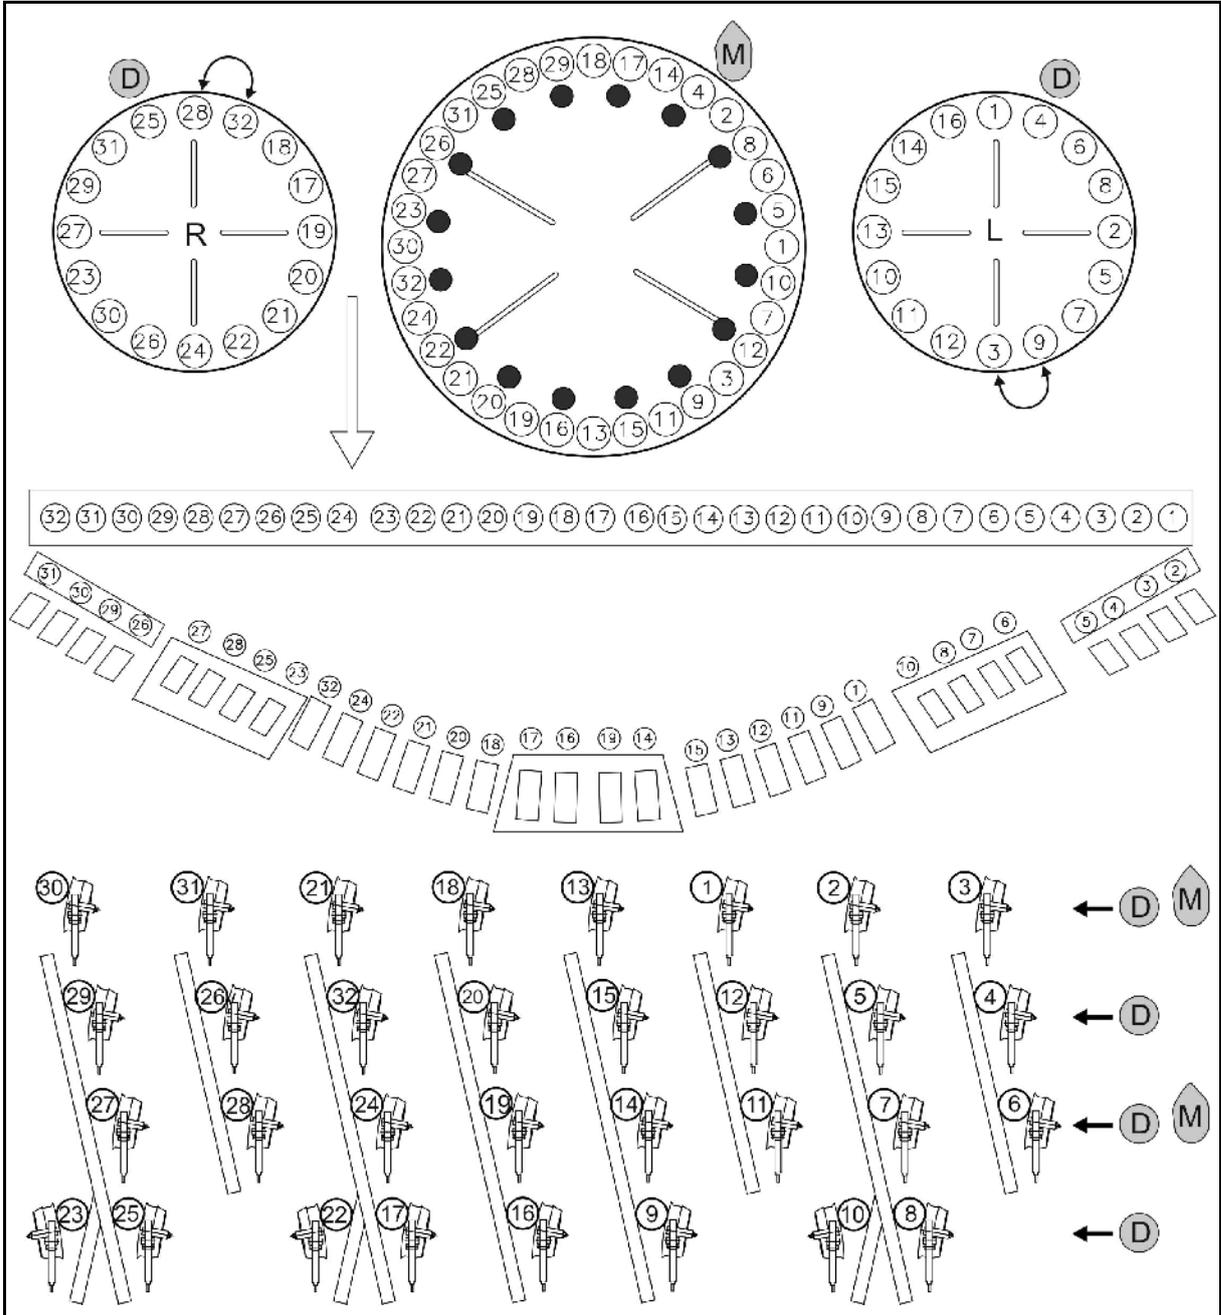

Fig. 51
- Maize ^M: Install the sealing plugs according to Fig. 51.